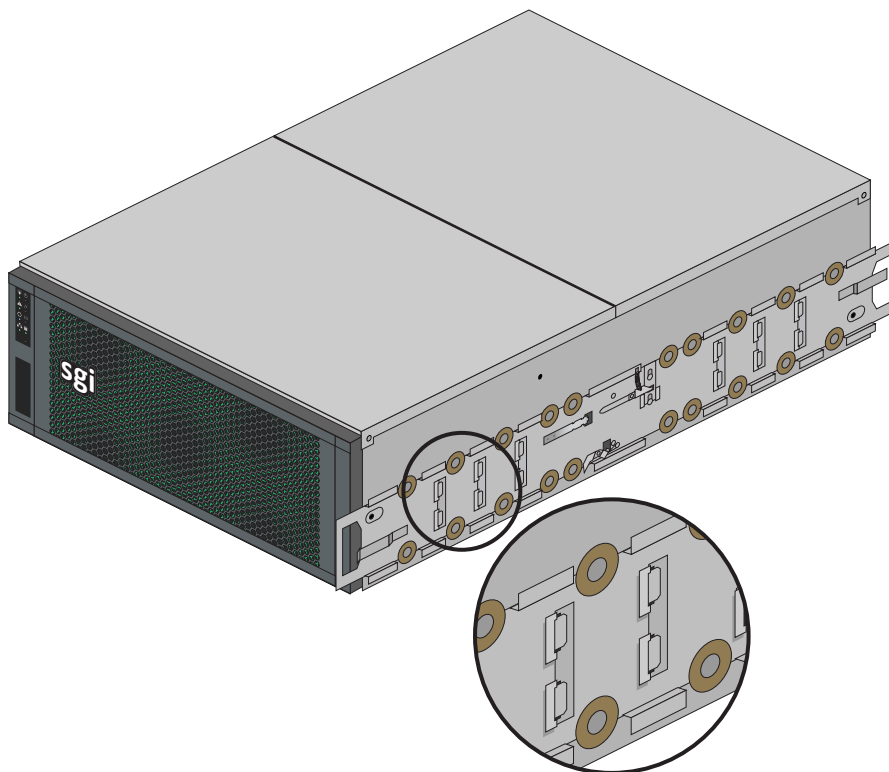

Figure 2-14 Lock on to Support Tabs
3. Slide the rolling rail beneath the support tabs on the side of the chassis until it locks firmly into place (see Figure 2-14 on page 32).